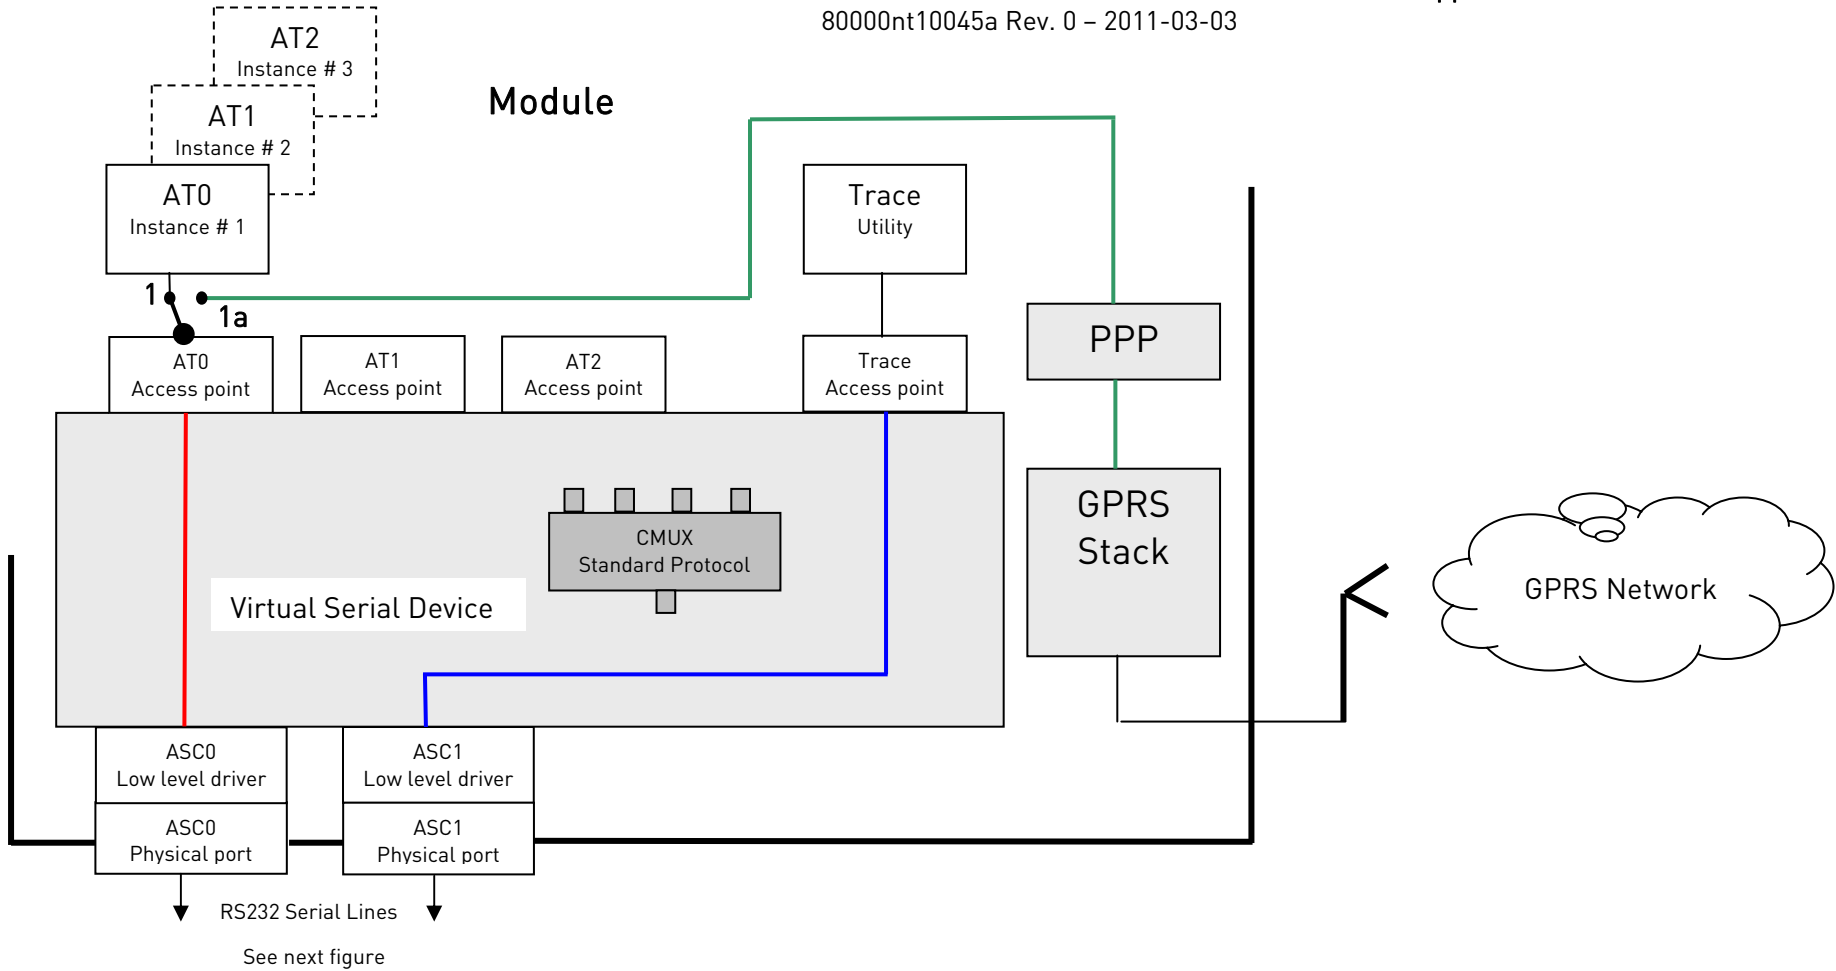
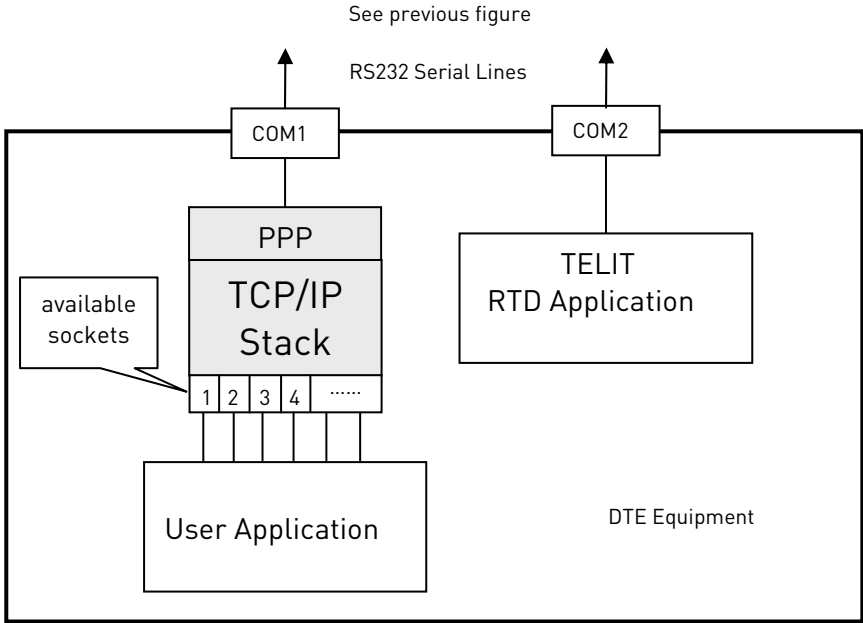

fig. 15: TCP/IP Protocol on Dial Up
fig. 16: TCP/IP Protocol on Dial Up (con't)
- Configure the PDP context in accordance with the SIM that is installed on the module. To carry out the configuration use, for example, an Hyper Terminal connected to the ASC0 serial port, the AT0 access point is connected to the instance #0 (1), see fig. 15. When the configuration is done, disconnect the Hyper Terminal from COM1;
It is worth remind that in this configuration, the TCP/IP stack protocol is not running on TELIT module, but it is running on the PC as showed by fig. 15, fig. 16.